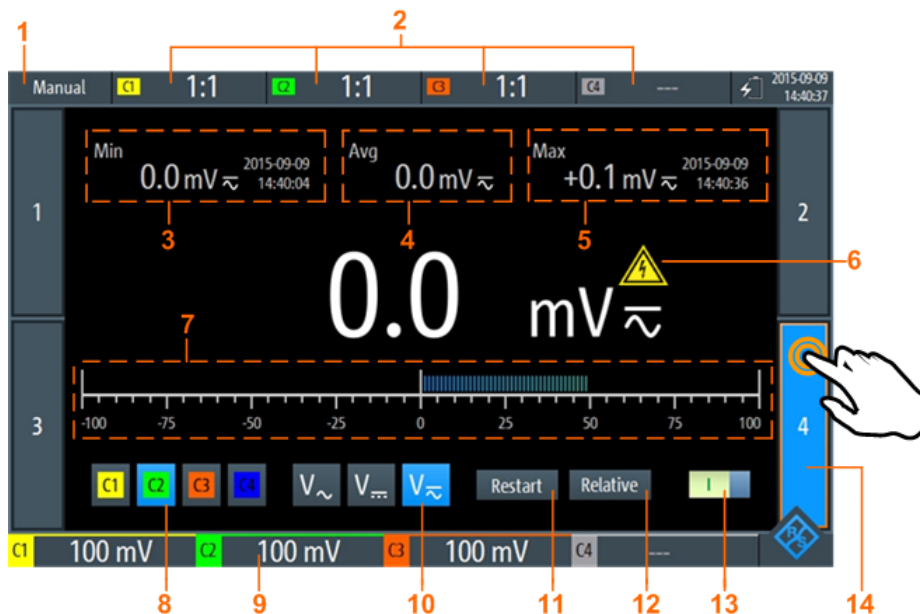

Figure 7-4: One-voltmeter-view
3. Select the channel to be measured (no. 8 in Figure 7-4).